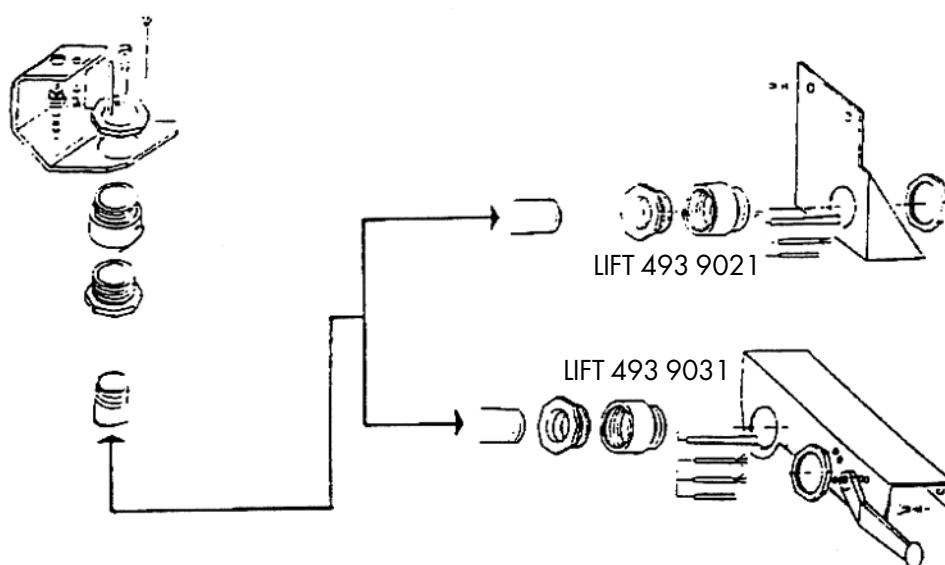

Fig. 11
- Connect the HP hoses according to Fig. 11.